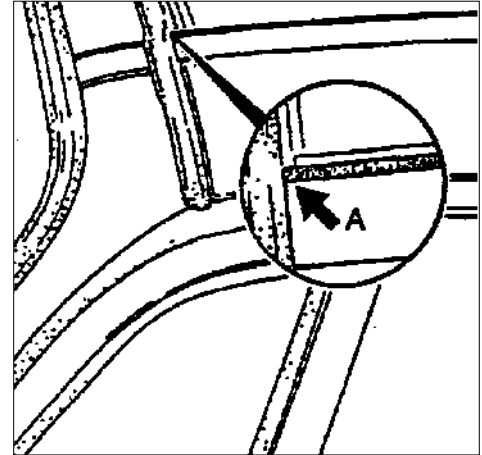

Figure 29
**Important:** The seal of the roof trim strip must contact the window frame seal (Figure 29, pos. A). A gap in this area will create wind noises! If necessary, position the seal to the front and remove excess glue.